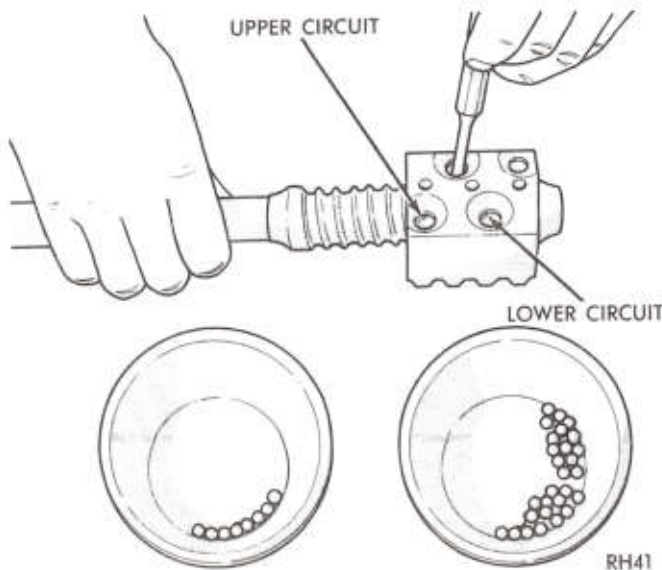

Fig. 7—Filling Ball Circuit (Closed Type)
(1) Remove screws and ball retaining clamp. Remove guides from nut.
(2) Invert the nut, rotate wormshaft in both directions to permit the balls to drop out. Make sure work area is clean. Having removed all of the balls, remove the nut from the wormshaft.
(3) Wash parts, using cleaning solvent and dry with compressed air. Using a magnifying glass, inspect parts for defects. Check the ball guide ends for damage. Replace defective parts.
(4) Hold the ball nut with the helical grooved bore in a horizontal position and the ball guide holes up. Have the shallow side of the rack teeth toward the left as viewed from the steering wheel related end. Insert the wormshaft, aligning the wormshaft grooves with the grooves in the nut.
(5) Count 27 balls, number of balls for one circuit, into a clean container. Place 20 of these balls into one of the guide holes. It may be necessary to push them in with the aid of a pin punch (Fig. 7).